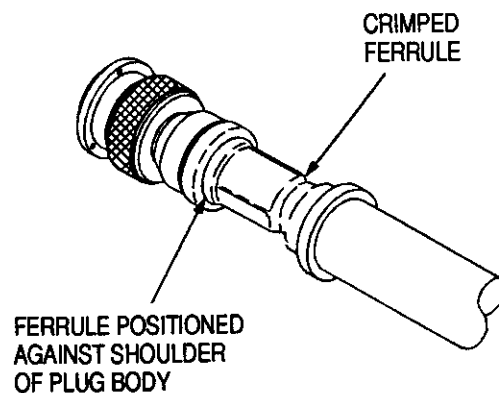

Figure 8
5. Slide ferrule forward over the cable braid until it is positioned against the shoulder of the plug body. Crimp the ferrule using the recommended crimping tool. Refer to the instructions (packaged with the tool) for specific crimping procedures. See Figure 8.